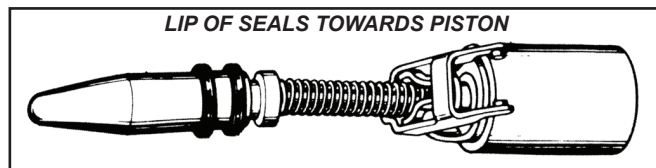

FIGURE 5
4. Using tool J-24553, install new seal (or seals) onto input rod end (Figure 5). Lip of seal should face towards power piston.